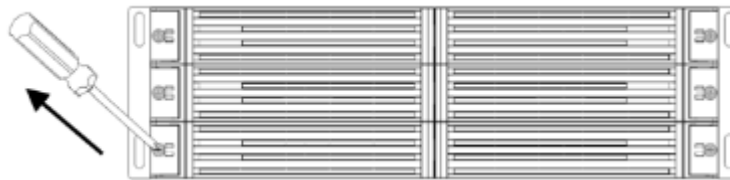

FIG. 2
10. Remove the six (6) front panel retaining screws. (FIG. 2)